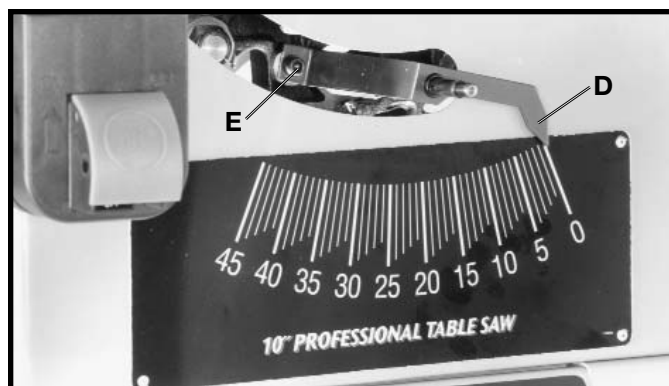

Fig. 60
5. Adjust the pointer (D) Fig. 60, to point to the zero degree mark on the scale by loosening screw (E), adjusting pointer (D), and tightening screw (E).